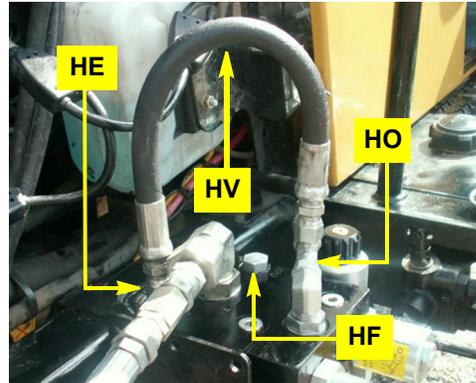

Figure 4e: Installed 'pressure re-direct' hose
e. Install hose **HV** (one of three) between fitting **HE** in the **PP** port of the hydraulic steering block and the stem of run-tee **HO** (Figure 4e).